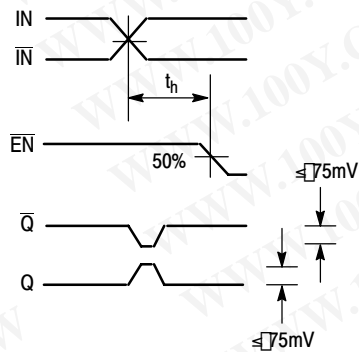

Figure 4. Hold Time
18. The hold time is the minimum time that EN must remain asserted after a negative going IN or a positive going  $\bar{IN}$  to prevent an output response greater than  $\pm 75\text{ mV}$  to that IN/ $\bar{IN}$  transition (Figure 4).